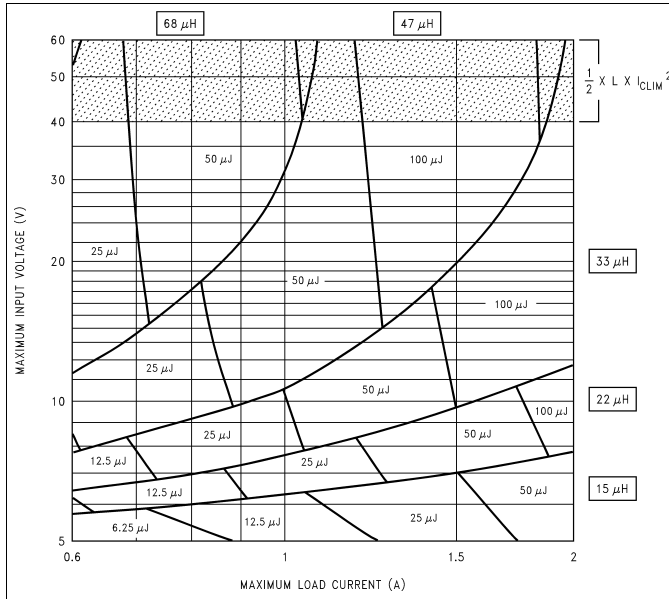
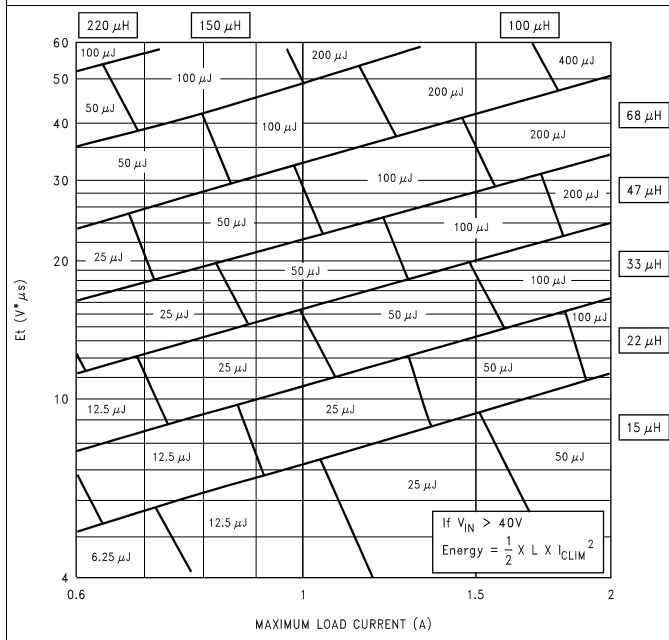

Figure 33. LM2593HV 3.3-V
Figure 35. LM2593HV Adjustable Voltage
See application note *AN-1197 Selecting Inductors for Buck Converters (SNVA038)* for detailed information on inductor selection. For a quick-start, see the nomographs provided in Figure 33 to Figure 35. To widen the choices to a more general selection of available inductors, the nomographs provide the required inductance and also the energy in the core expressed in microjoules ( $\mu\text{J}$ ), as an alternative to just prescribing custom parts. The following points must be highlighted:
5. Figure 35 shows the inductor selection curves for the adjustable version. The y-axis is  $Et$ , in  $\text{V}\mu\text{s}$ . It is the applied volts across the inductor during the ON time of the switch ( $V_{\text{IN}} - V_{\text{SAT}} - V_{\text{OUT}}$ ) multiplied by the time for which the switch is on in  $\mu\text{s}$ . See Example 3.
1. Because input voltage is less than 40 V, a first pass inductor selection is based upon inductance and rated maximum load current. Choose an inductor with the inductance value indicated by the nomograph Figure 35 and a current rating equal to the maximum load. But first calculate  $E_t$  for the given application. The duty cycle is Equation 5.
3. Therefore, looking at Figure 33, quick-select a 47- $\mu\text{H}$ , 2-A inductor (designed for 150-kHz operation) for this application.
4. Confirm that it is rated to handle 200  $\mu\text{J}$  (see Figure 35) by the procedure shown in *AN-1197 Selecting Inductors for Buck Converters (SNVA038)* and that the losses are acceptable. (If the DC input voltage had been greater than 40 V, consider  $e_{\text{CLIM}}$  as in Example 2).